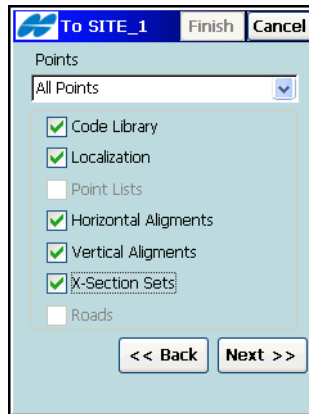

Figure 5-20. Export to Job
2. In the *To <Job>* screen select whether points are to be exported, and if necessary, filter the exported points either by type, by range and code, or by type, range, and code (Figure 5-20 on page 5-15). Also, place appropriate check marks, if the following data should be exported along with points: Code Library, Localization, Point Lists, Horizontal Alignment, Vertical Alignment, X-Section Sets or Roads.